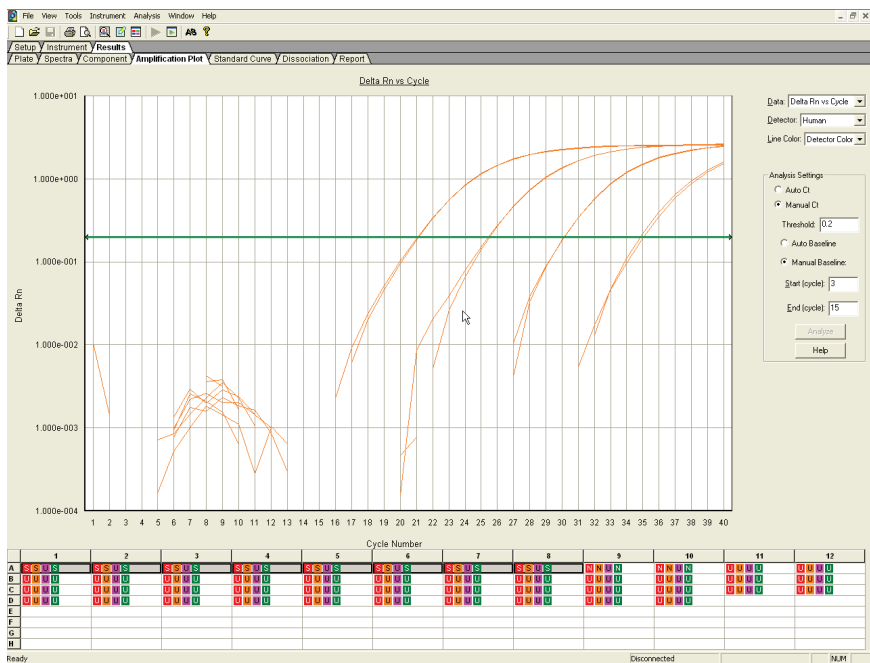

Figure 39. Amplification plot for Human.
4. In the **Amplification Plot** tab (found in the **Results** tab), select the appropriate samples in the table below the amplification plot. Choose **Human** and set Threshold to **0.2** then press **Analyze**. Repeat this for Male, Degradation and IC with the thresholds below (Figure 39, next page):